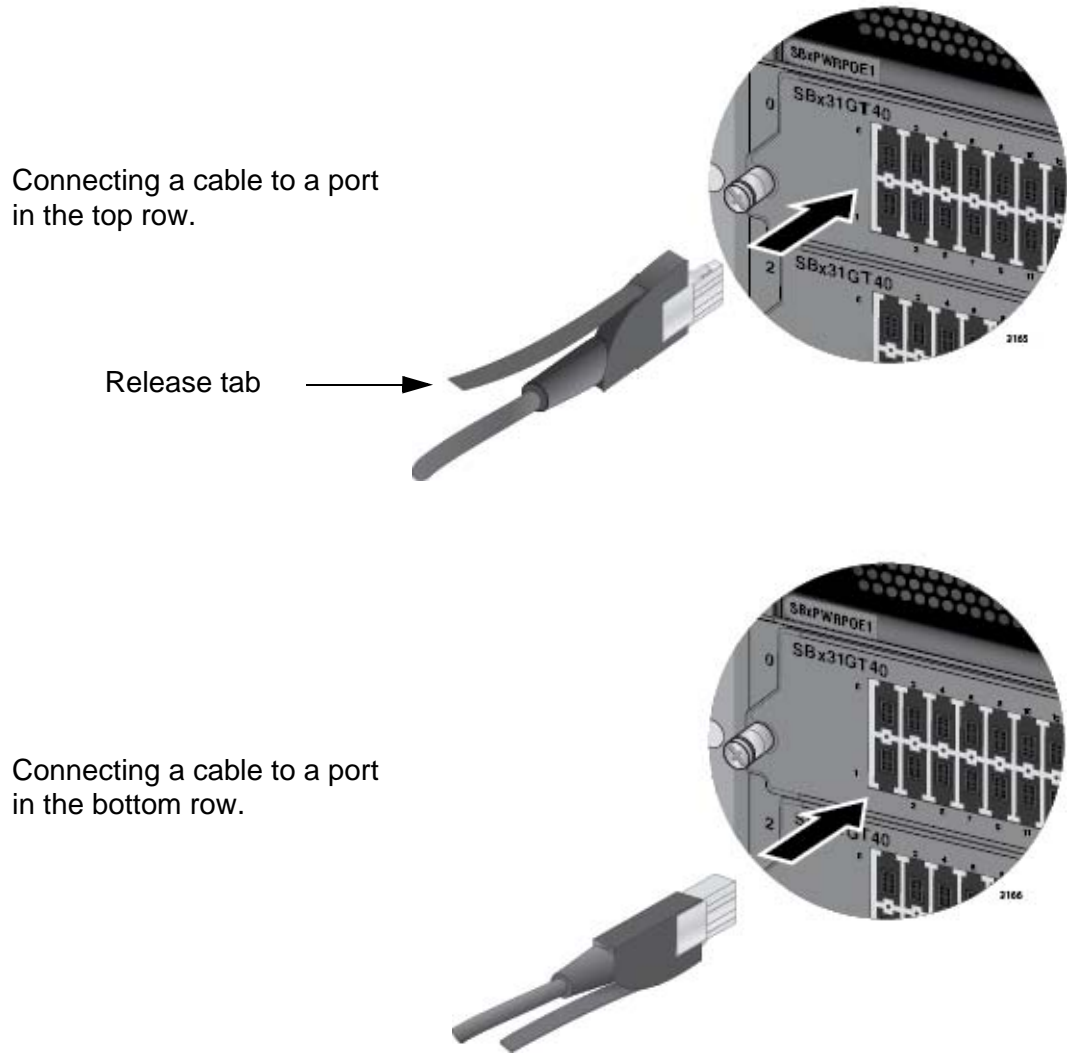

Figure 97. Connecting Cables to Ports on the AT-SBx31GT40 Line Card
- ❑ To connect a cable to a port in the top role on the line card, orient the connector with the release tab on top. To connect a cable to a port in the bottom role, orient the connector with the release tab on the bottom. Refer to Figure 97 on page 162.